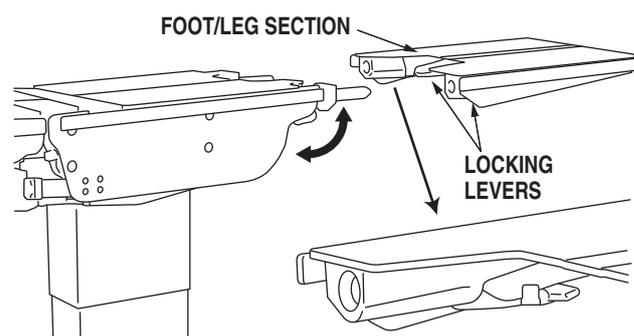

Figure 2-23. Leg Section Removal
a. The Leg Section and the Back Section on the 3602X table are both removable. See figure 2-23 (Leg Section shown).